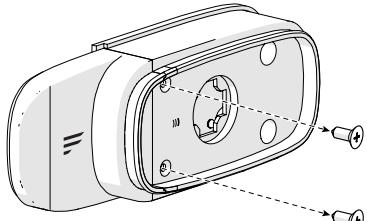

Fig. 30
3. Remove the two screws holding the decorative part using a Phillips screwdriver and set aside. [Fig. 30]